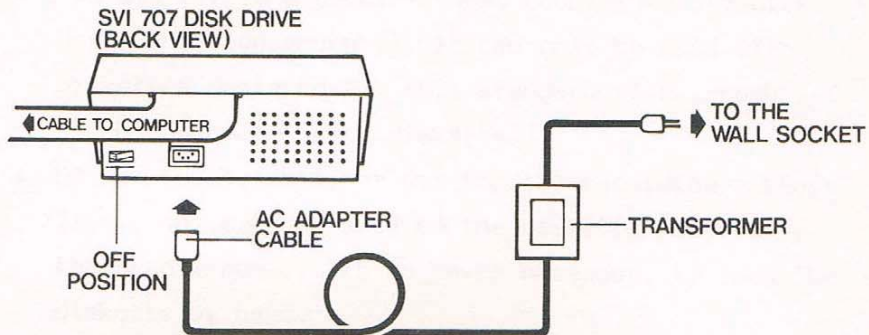

Figure 3 Installing the AC Adapter
- Step 4.** Plug one end of the AC adapter cable into the power socket at the back of the disk drive (see figure 3).